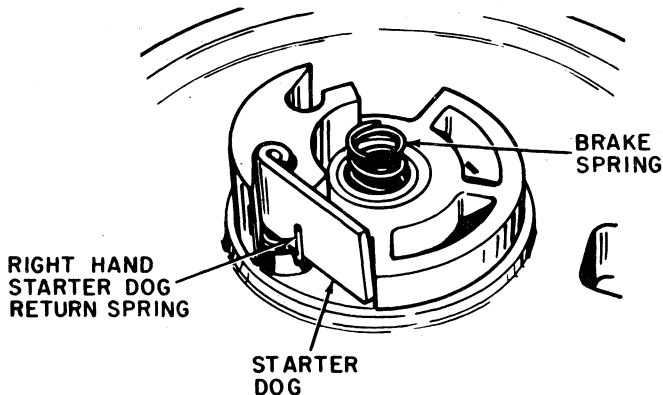

Figure 11
2. Note the position of the starter on the engine. Remove the four bolts and the starter assembly. Pull the centering pin (a roll pin and plastic sleeve) from the hole in the retainer screw. Refer to Figure 11. Remove the retainer screw, the retainer, and the brake spring. Remove the starter dog and spring, after noting their position in the pulley. Refer to Figure 11.
2. If the spring and keeper assembly was removed, install it in the pulley. The flanges must go into the slots far enough (turning counterclockwise) to bring the keeper shoulders (2) against the pulley bosses.
6. Install the brake spring in the bore of the pulley. Install the dog spring in the right-hand opening (see Figure 11), with the straight end of the spring down and positioned in the slot. Install the starter dog, putting the upper end of the spring on the outside of the dog. Position the retainer on the pulley, with the slot over the starter dog. Install the retainer screw and tighten to the specified torque. Drive the centering pin (a roll pin) into the bore of the retaining screw. Install the plastic sleeve on the pin.